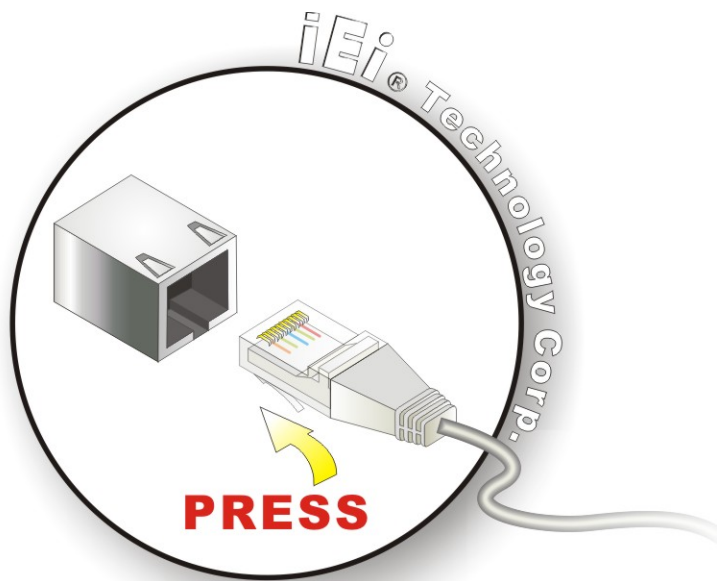

Figure 4-12: LAN Connection
Step 2: **Align the connectors.** Align the RJ-45 connector on the LAN cable with one of the RJ-45 connectors on the bottom panel of the AFL-08AH-N270-CR. See **Figure 4-12**.